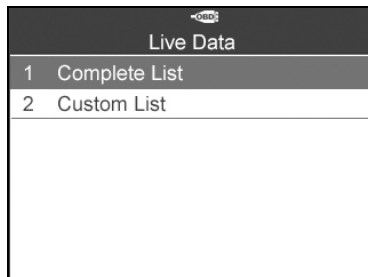

Figure 6.9
- 1) To view complete set of data, use the **UP/DOWN** scroll button to select **Complete List** from **Live Data** menu and press the **Y** button. (Figure 6.9)
- 1) To view customized PID data, use the **UP/DOWN** scroll button to select **Custom List** from **Live Data** menu and press the **Y** button. (Figure 6.9)